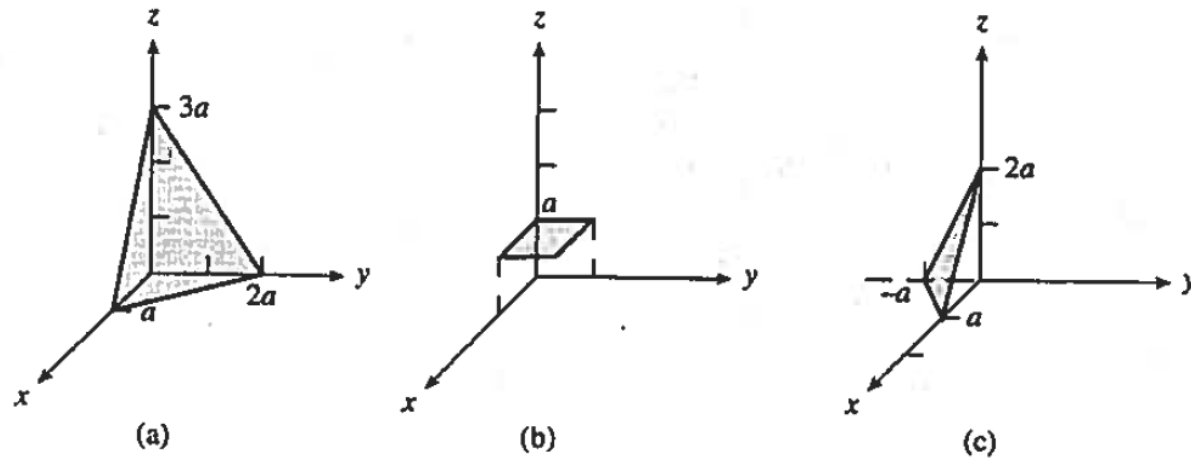

Figure 1.6 Sample cubic crystal planes. (a) The (632) plane used in explaining the Miller indexing procedure. (b) The (001) plane. (c) The $(\bar{2}21)$ plane.
- (i) If the plane to be indexed is parallel to a coordinate axis, the “intercept” along the axis is taken to be at infinity. Thus, for example, the plane shown in Fig. 1.6(b) intercepts the coordinate axes at ∞ , ∞ , 1, and is therefore a (001) plane.
- (ii) If the plane to be indexed has an intercept along the negative portion of a coordinate axis, a minus sign is placed *over* the corresponding index number. Thus the Fig. 1.6(c) plane is designated a ($\bar{2}\bar{2}$ 1) plane.